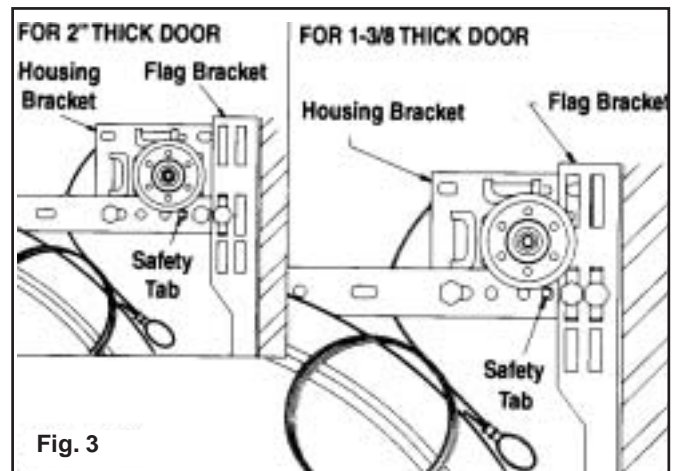

Fig. 3
Step 3: Attach left hand housing assembly to the front of the horizontal angle using two $\frac{3}{8}$ " x $\frac{3}{4}$ " hex head bolts and $\frac{3}{8}$ " flange nuts. The $\frac{3}{8}$ " x $\frac{3}{4}$ " bolt and nut closest to the jamb should also extend through the flag bracket using the first slot on the horizontal angle. The bolt and nut farthest from the jamb should be attached in the 2nd slot of the horizontal angle. Make sure the safety tab on the housing bracket engages the first round hole in the horizontal angle as shown. (FIG. 3)